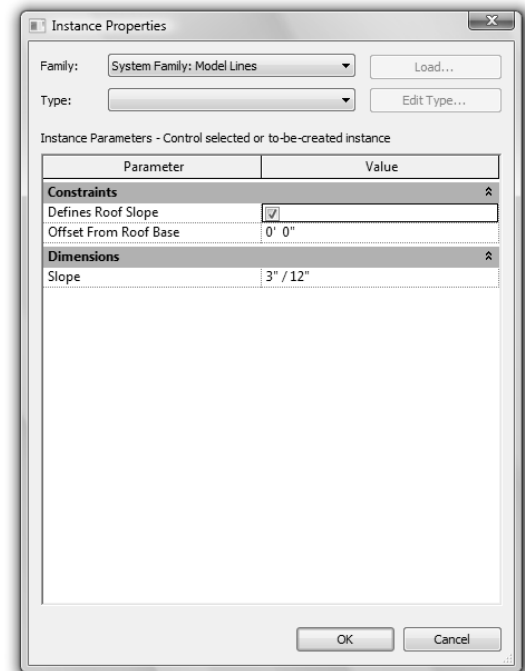

Figure 7-1.8 Properties for roof tool
30. Set the roof pitch to 3/12 (Figure 7-1.8); click **OK**.